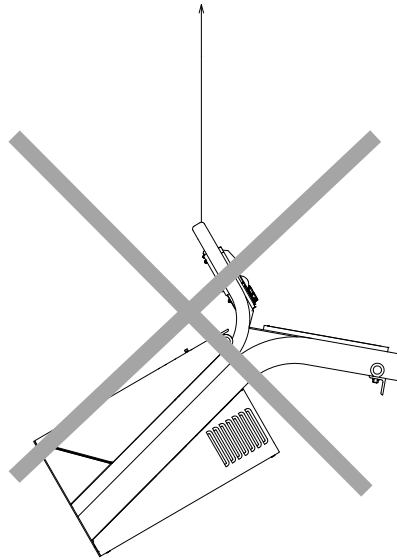

Fig 3-20 Improper way to hoist
- When hoisting the scanner by a crane, do not hoist it by attaching a belt or a rope only to the handrail of display unit.(See **Fig 3-20 Improper way to hoist**)